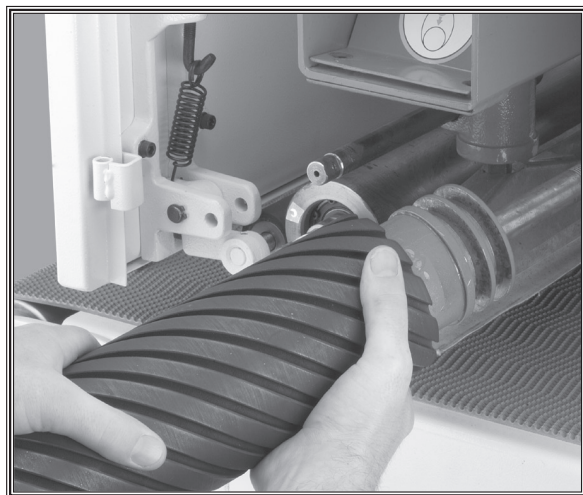

Figure 29. Roller removal.
7. Now, move back to the left-hand side of the machine and carefully pull out the front sanding belt roller as shown in **Figure 29**. The V-belts can now be easily removed.